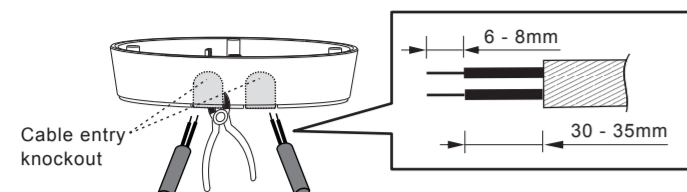

FIG.14
4.4.3.2 To feed AC power cables through the side of enclosure, please use the cutting pliers to break the cable entry knockouts on the side of enclosure, then insert cables into enclosure and feed through it. Strip off 6 - 8mm of cable sheathing for wiring (See FIG.14).